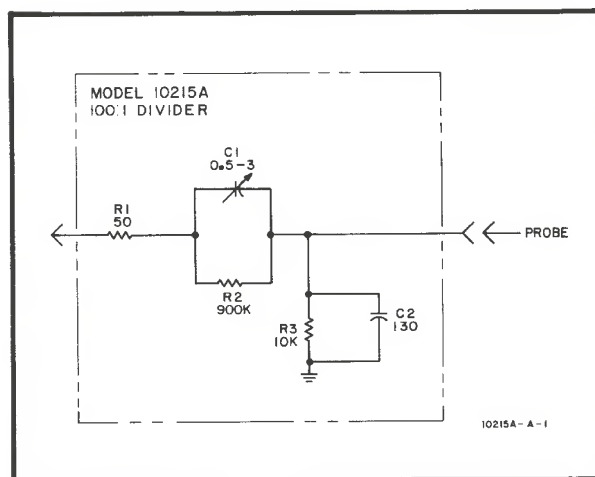

Figure 2. Schematic Diagram
8. A schematic of the Model 10215A is shown in Figure 2. The major components of the divider are resistor R1, which is used to damp lead inductance at the divider input. Resistor R1 and R2, with the 100k ohm parallel input resistance in the probe, accomplish the division ratio at low frequencies. At high frequencies the division is determined by C1 and C2.